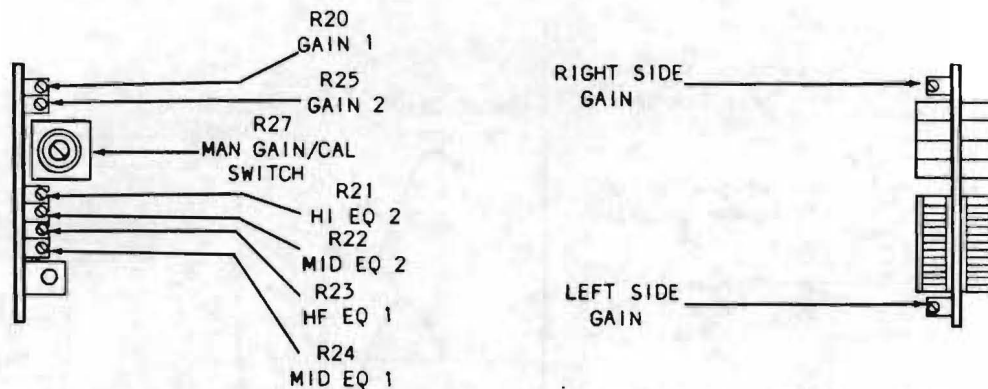

Figure 4-7, Reproduce Amplifier and VU Meter Board Adjustments
- B). Using the reference level applied to the desired channel, advance the gain until the uppermost yellow LED just lights (see Figure 4-7).